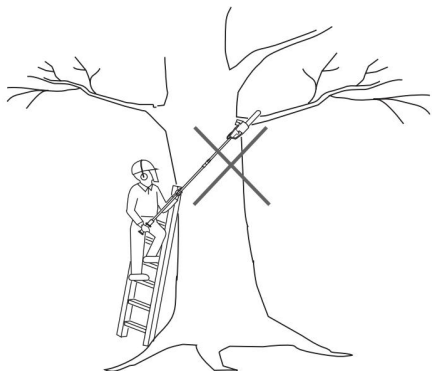

Fig. 53
6. Never stand on a ladder or other type of unstable support while using the product. Insecure stand invites hazards (Fig. 53).